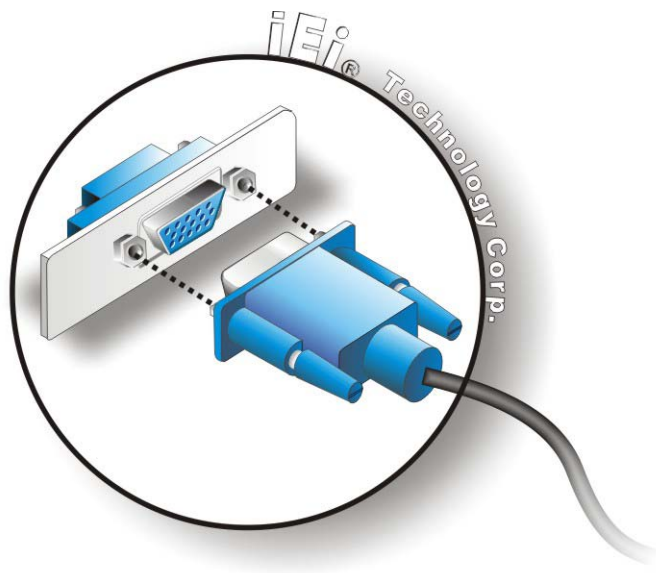

Figure 3-15: VGA Connector
- Step 3: Insert the VGA connector.** Once the connectors are properly aligned with the insert the male connector from the VGA screen into the female connector on the TANK-600. See **Figure 3-15**.